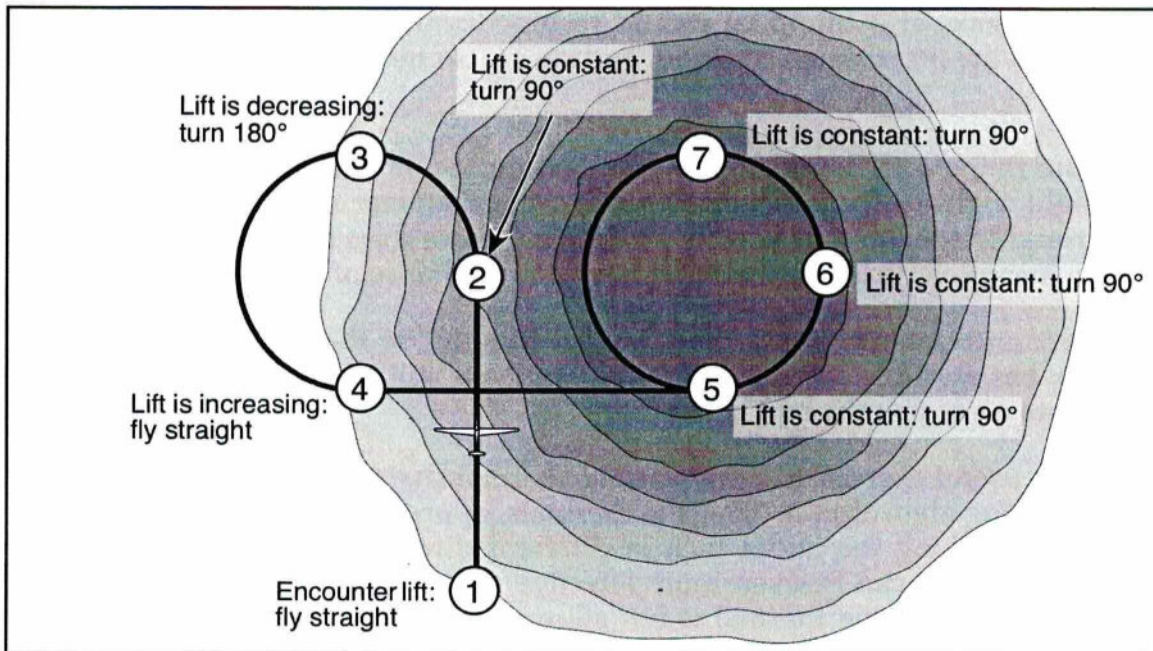

Figure 7.6 – Thermaling algorithm applied when the initial turn is made in the wrong direction
About half the time, you will make the first turn in the wrong direction, away from the thermal. Following the previous thermaling algorithm will bring you back to the center. In Figure 7.6, the pilot encounters lift at ① and makes a turn to the left when the lift peaks at ②. However, the core of the thermal is in the other direction, so after the 90° turn, the lift has dropped off. The pilot would perceive this as a sinking feeling. The pilot realizes that the lift is decreasing and therefore, at ③, following the algorithm, continues the turn for another 180°.